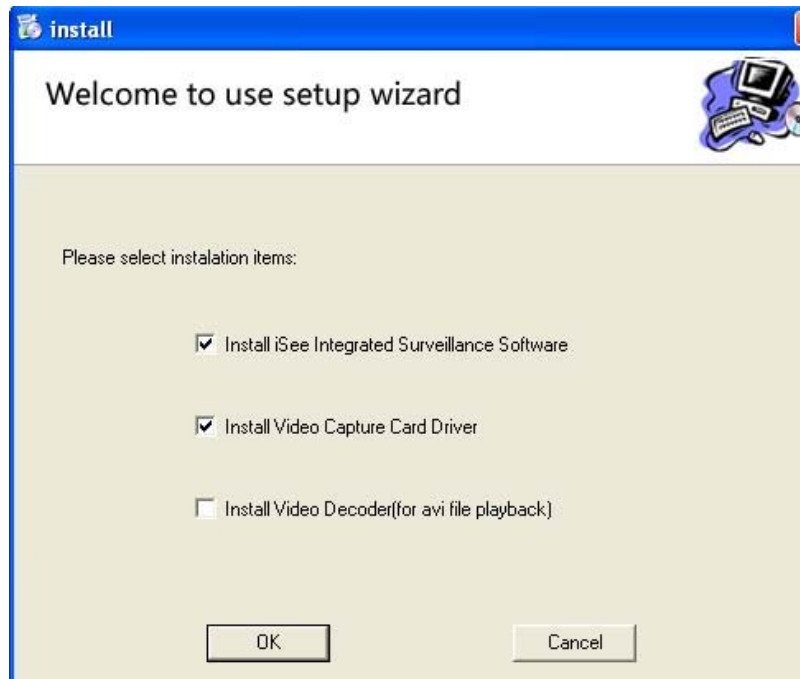

Fig 1
- 1) Double-click Setup.exe to start the installation, fig 1: